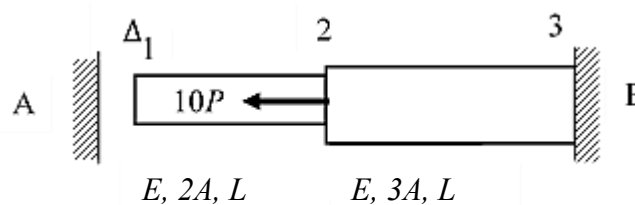

Figure 6
- (b). Write the element stiffness matrices and global matrix for the two bars assembly which is loaded with force $10P$ at node 2 as shown in **Figure 6**. End bars are constrained at end B and free at end A with a gap of Δ at end A. Given the value of $P = 60$ kN, $E = 20$ kN/mm², $L = 200$ mm, $A = 250$ mm² and $\Delta = 1.2$ mm, determine: